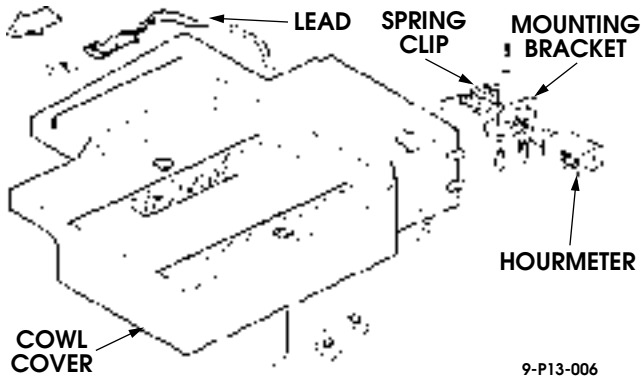

Figure 13-64: Hourmeter Removal
1. Remove the left side cowl cover (Figure 13-64).
2. Pull tabs on either side of spring clip while simultaneously pulling spring clip away from mounting bracket (Figure 13-64).
1. Secure mounting bracket to driver side cowl with bolts and washers (Figure 13-64).